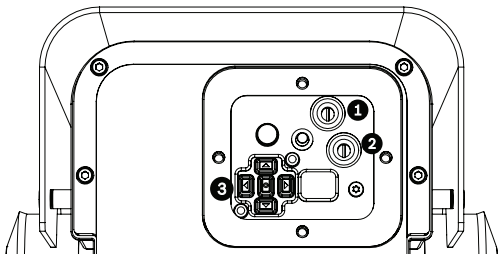

Figure 5.2 Controls for focal length, focus, and camera set-up
2. Open the access panel. Now you can adjust the focus and focal length (see *Figure 5.2* below).
1. Use the top set screw (item 1, *Figure 5.2*) to adjust the image focus:
2. Use the lower set screw (item 2, *Figure 5.2*) to adjust the focal length (tele or wide):